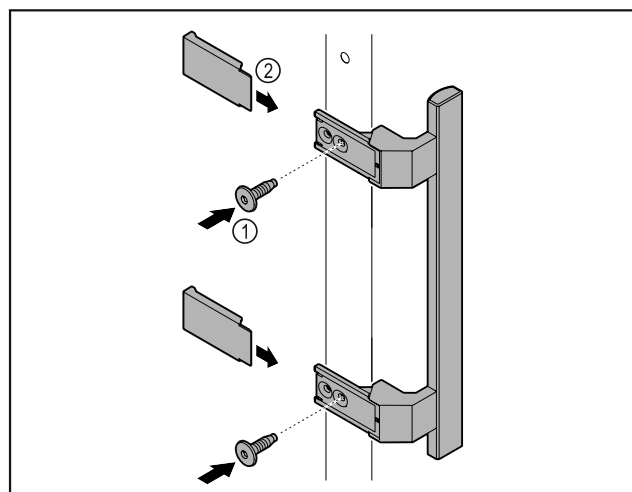

Fig. 2
- ▶ Attach handle from accessory kit to the door using the screws Fig. 2 (1) supplied.
- ▶ Put on covers Fig. 2 (2).